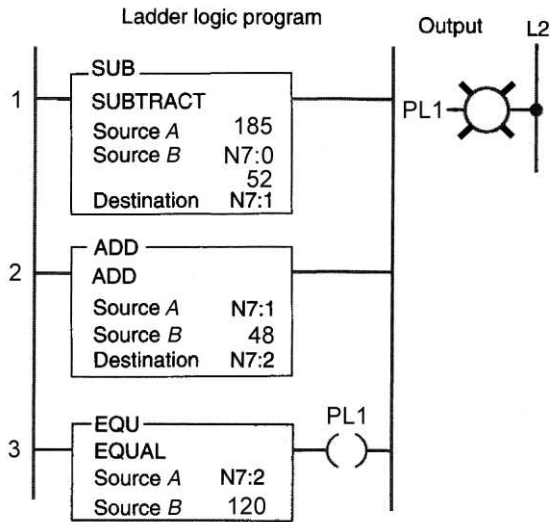

Figure 11-3 Program for question 4.
- 4-1. For the program of Figure 11-3, the number stored in N7:2 would be 4-1. _____